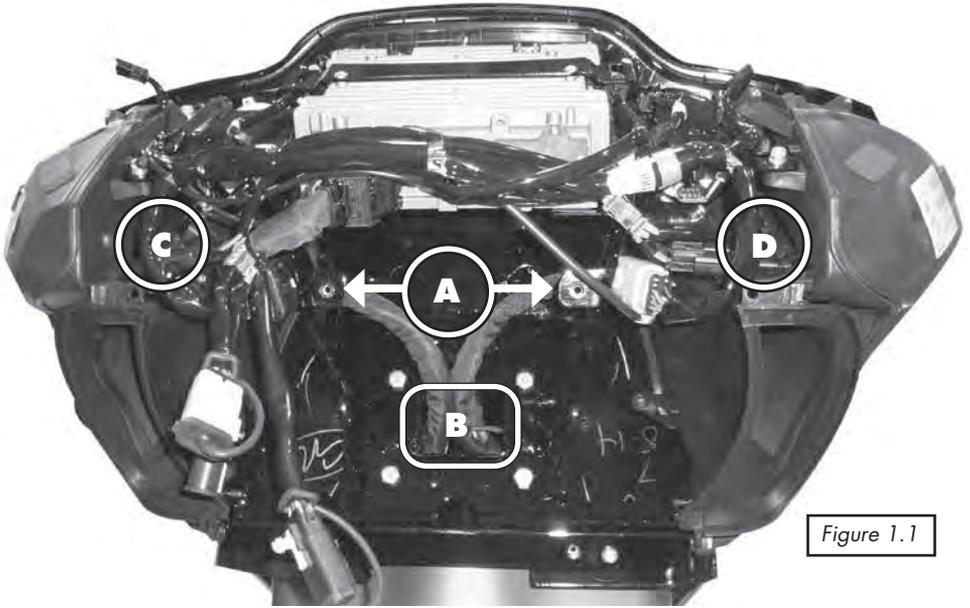

Figure 1.1
Before proceeding, please locate the points in the fairing identified by the letters in Figure 1.1.
Step #2: Locate the power harness for the amplifier. One end has ring terminals and a fuse and the other has a 2 pin connector. Using Fig 1.1 on Page 4 for reference, you want to run the "ring terminal end" of the power harness through "B". Position it so the 2 pin power connector is accessible in the inner fairing and the slack can be adjusted later in the installation. Just in front of the tank, there is a structure that attaches the fairing to the frame of the bike. The power harness will pass through this structure and exit through the rectangular opening where the factory harness also exits the structure on the BRAKE side of the bike. Note: it can be easier to pass the wire harness through the rectangular opening if you open the fuse holder and remove the fuse before passing the wire harness. You can run the power harness under the gas tank if you are comfortable removing the gas tank, or you can run the power harness up and over the tank but under the chrome console.
Step #4: Using Fig 1.1 on page 4 for reference, locate the 4 bolts around "B" and remove the top left and top right bolts (only). Also using Fig 1.1 on page 4 for reference, you will see 2 large factory harnesses between "A" and "B". You will have to wiggle the amp on the plate into place around these harnesses so that the holes on the "legs" at the bottom of the plate line up with the holes where the factory bolts around "B" were. With the plate in position, reinstall the factory bolts around "B" which will secure the amp on its plate to the bike.
- Step #5: As shown by “C” in Figure 1.1, on the brake side of the bike, there is a 2 pin connector with pink/pink with black stripe wires going through it. The plug is close to where the wires enter the brake side speaker cabinet. Separate the connector so there are 2 plugs. From the amp, take the 2 pin plug with blue heat shrink and install it into the plug going into the brake side speaker cabinet. Take the 2 pin plug with brown heat shrink and install it into the plug going into the clutch side speaker cabinet.
- Step #6: As shown by “D” in Figure 1.1, on the clutch side of the bike, there is a 2 pin connector with pink/pink with black stripe wires going through it. The plug is close to where the wires enter the clutch side speaker cabinet. Separate the connector so you now have 2 plugs. From the amp’s input connector, take the 2 pin plug with green heat shrink and install it into the mating plug on the brake side of the bike. Also from amp’s input connector, take the 2 pin plug with yellow heat shrink and install it into the mating plug on the clutch side of the bike.